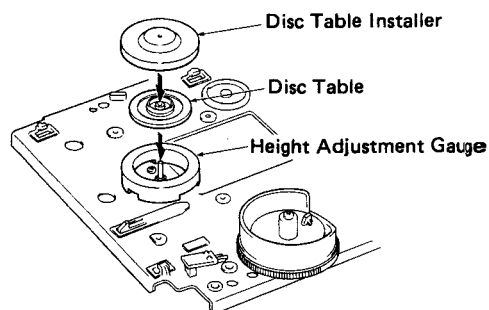

Fig. 8
c. Install turntable onto motor shaft with disc table installer as shown in Fig. 8.